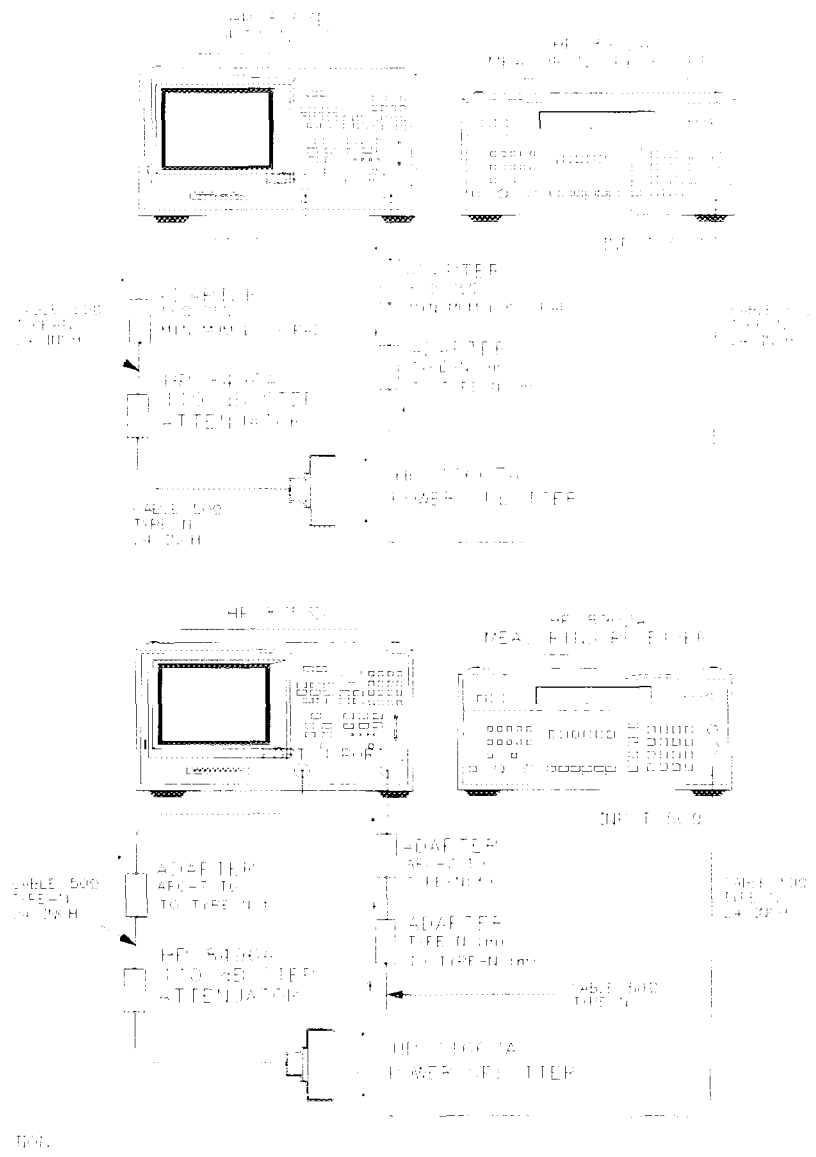

Figure 4-31. Test Port 2 Dynamic Accuracy Test Setup
- 4** Connect the equipment as shown in Figure 4-31.